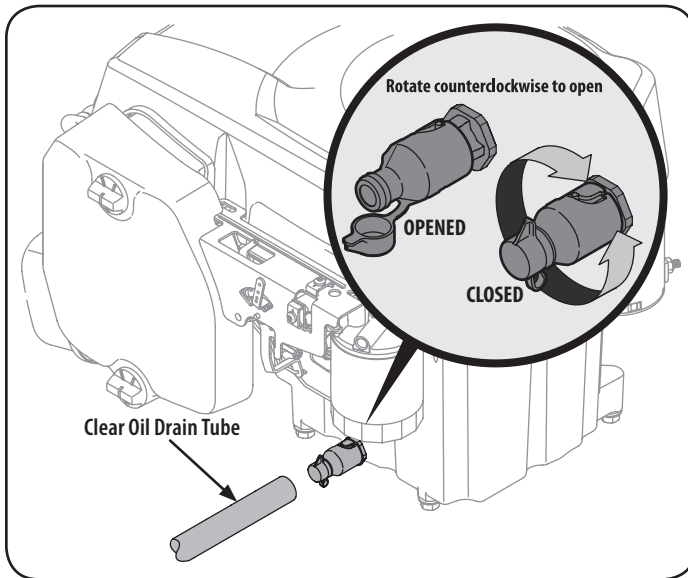
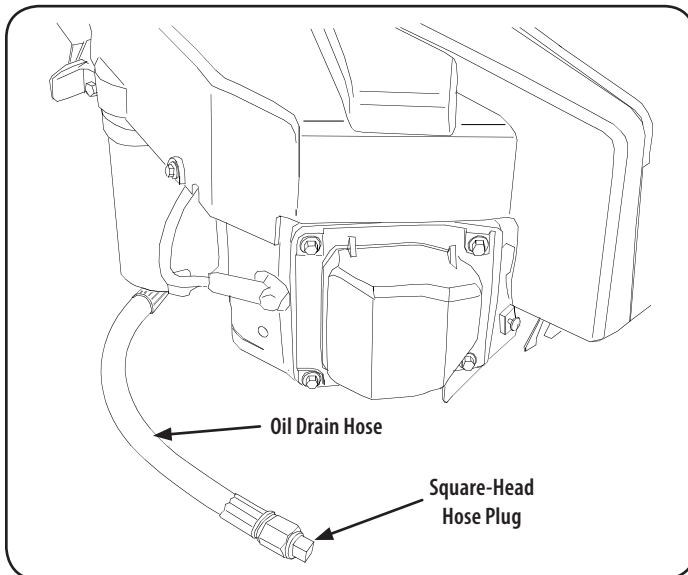

Figure 19
Figure 20
4. Your engine is equipped with either a twist-and-pull oil drain (see Figure 19 and go to Step 5.) or a removable oil drain hose plug (see Figure 20 and go to Step 6.) Follow the applicable instructions for your tractor.
5. Twist-and-pull oil drain (refer to Figure 19):
6. Removable square-head hose plug (See Figure 20):
- Remove the square-head hose plug from the end of the hose. See Figure 20. Drain the engine oil into the collection container.